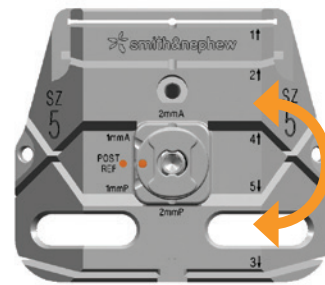

Figure 28
2. Use the Resection Check to check the location of the anterior cutting slot. Make any necessary anterior/posterior adjustments to avoid over stuffing the patella femoral joint, over stuffing the flexion space or femoral notching (Figure 28).